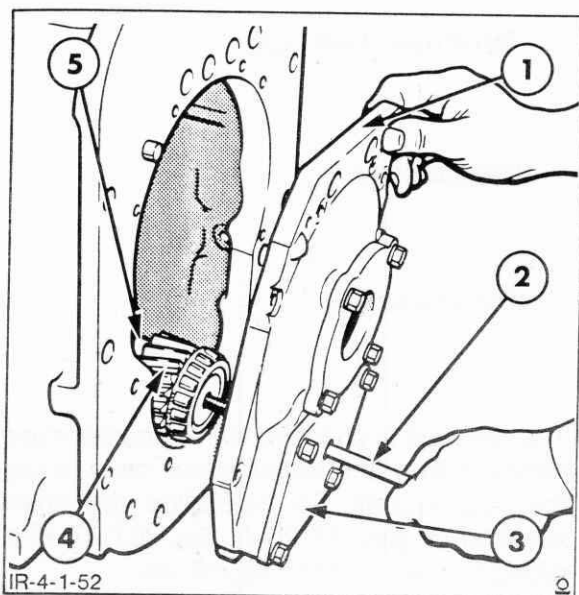
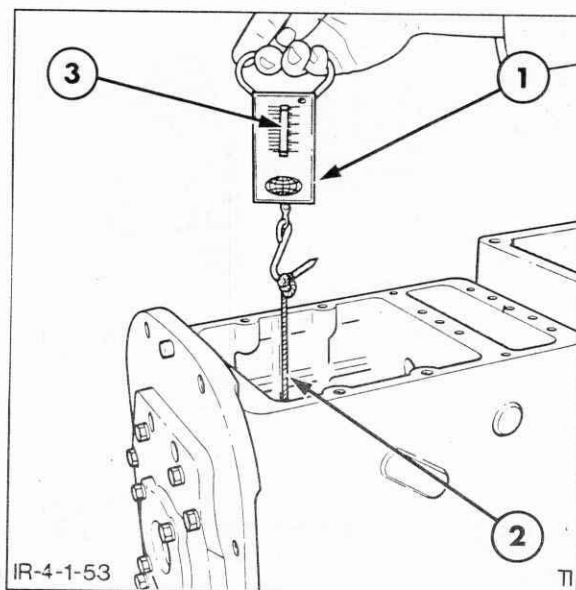

Figure 4-52
Figure 4-53
9. Using a suitable length of cord and a pull scale as shown in Figure 4-53, wrap the cord around the countershaft just ahead of the helical gear, Figure 4-52. Ensure that the cord does not overlap.
5. Remove the bearing cap plug and insert a suitable rod through the hole in the cap into the countershaft, Figure 4-52.